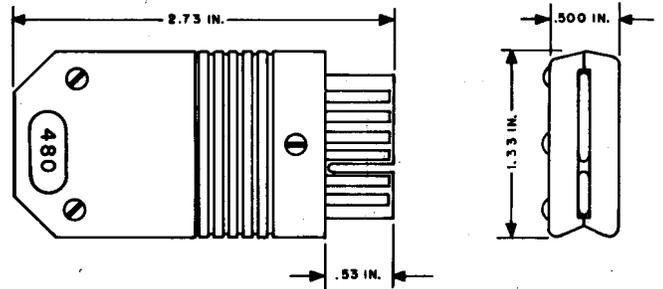

Fig. 5—480A or B Plug
2.06 480A and B: The 480A and B (Fig. 5) are polarized type plugs, consisting of twelve contacts on a printed wiring board, two plastic covers, a strain relief arrangement, and associated hardware. The 480A and B plugs are used in D4 Channel Banks.